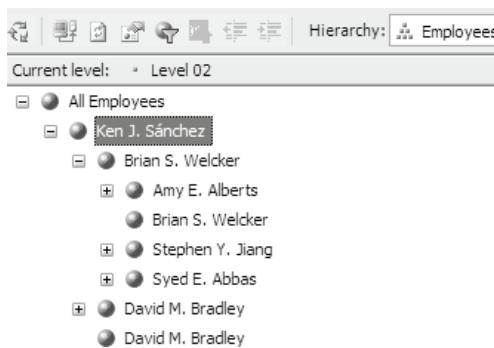

Figure 4.21 Members in a parent-child hierarchy have a recursive relationship.
1. Process and browse the Employee dimension. Select the Employees hierarchy in the Hierarchy dropdown (Figure 4.21).